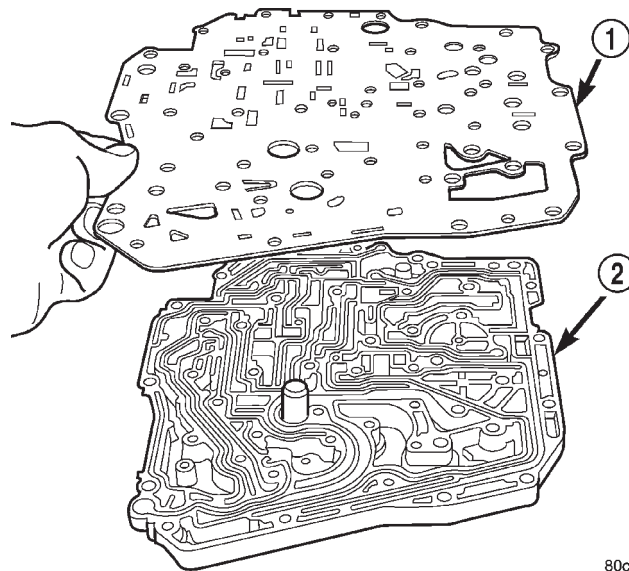

Fig. 127 Separator Plate
- (9) Remove separator plate from transfer plate (Fig. 127).